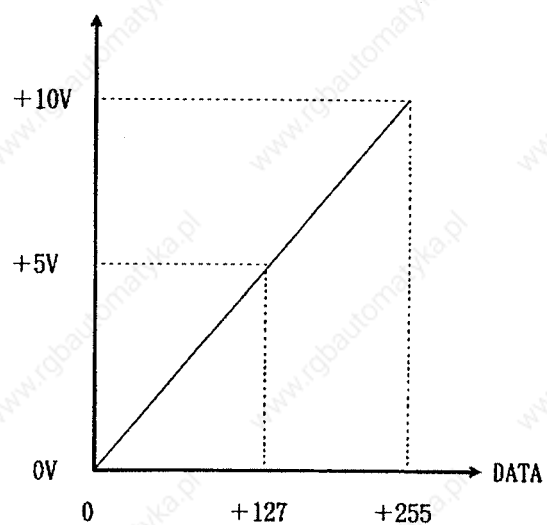

Fig. 2
- ② The speedometer output and load meter output data will be D/A output as shown in Fig. 2.